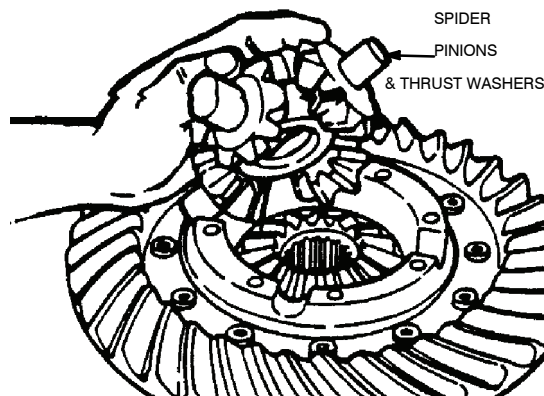

Figure 61.
- (4) Pre-lubricate differential case inner walls and all component parts with the recommended axle lubricant.
- (5) Position thrust washer and side gear in gear case half.
- (6) Place spider with pinions and thrust washers in position. Refer to Figure 61.